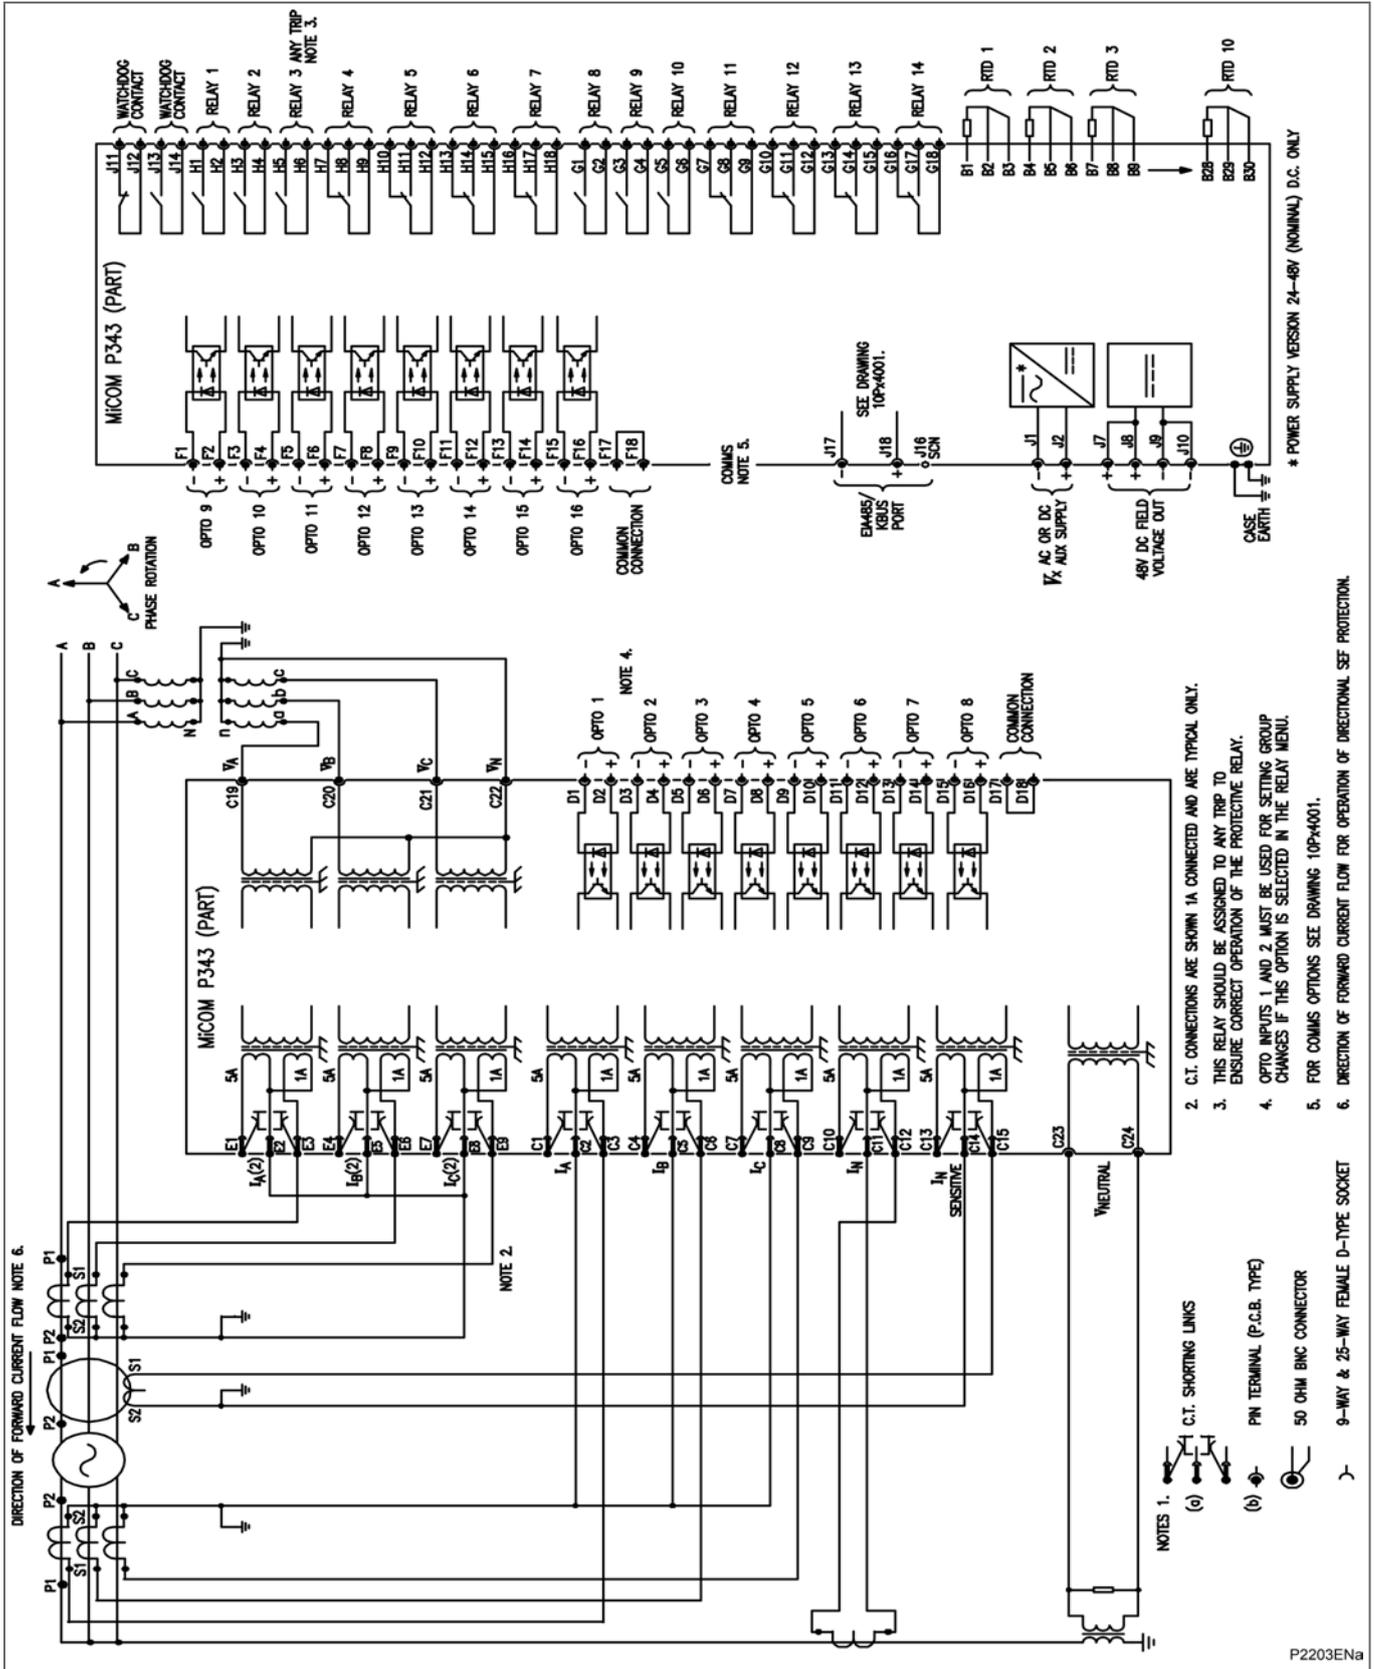

Figure 53 - P343 (60TE) for biased differential (16 I/P & 14 O/P & RTDs)
- Figure 53 - P343 (60TE) for biased differential (16 I/P & 14 O/P & RTDs)